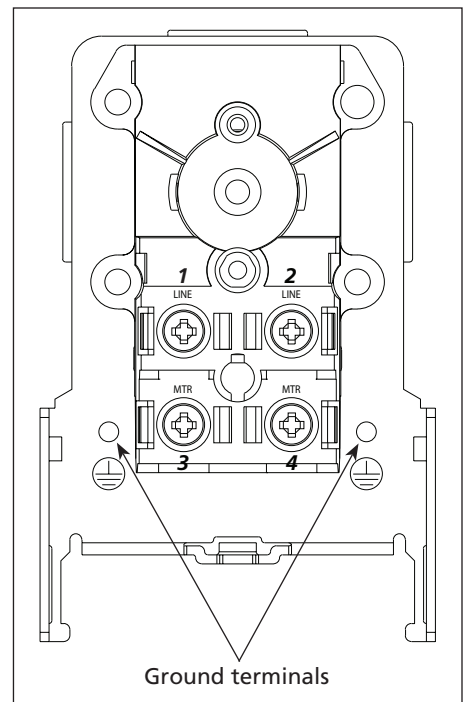

Figure 4
8. Position black motor wire underneath screw head #4 (See Figure 4), then tighten screw to secure wire. Position black line wire underneath screw head #2, then tighten screw to secure wire.
- to secure wire. Position white motor wire underneath screw head #3, then tighten screw to secure wire (See Figure 4).
10. Attach green ground wire from line cord to inside of pressure switch with ground screw provided in kit. Repeat procedure with green ground wire from motor cord. (See Figure 4).